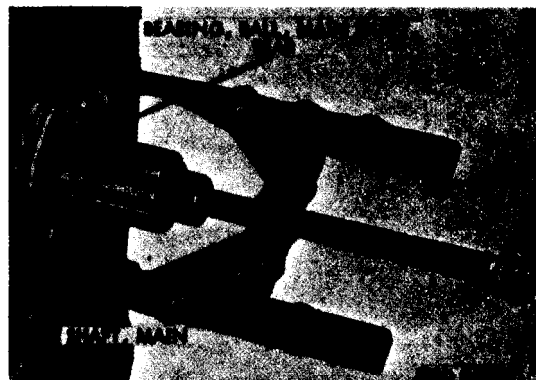

Figure 251. Removing main shaft rear ball bearing
- (c) Start main shaft assembly and bearing assembly from transmission case and attach universal puller to main shaft rear ball bearing (fig. 251). Pull bearing from main shaft.